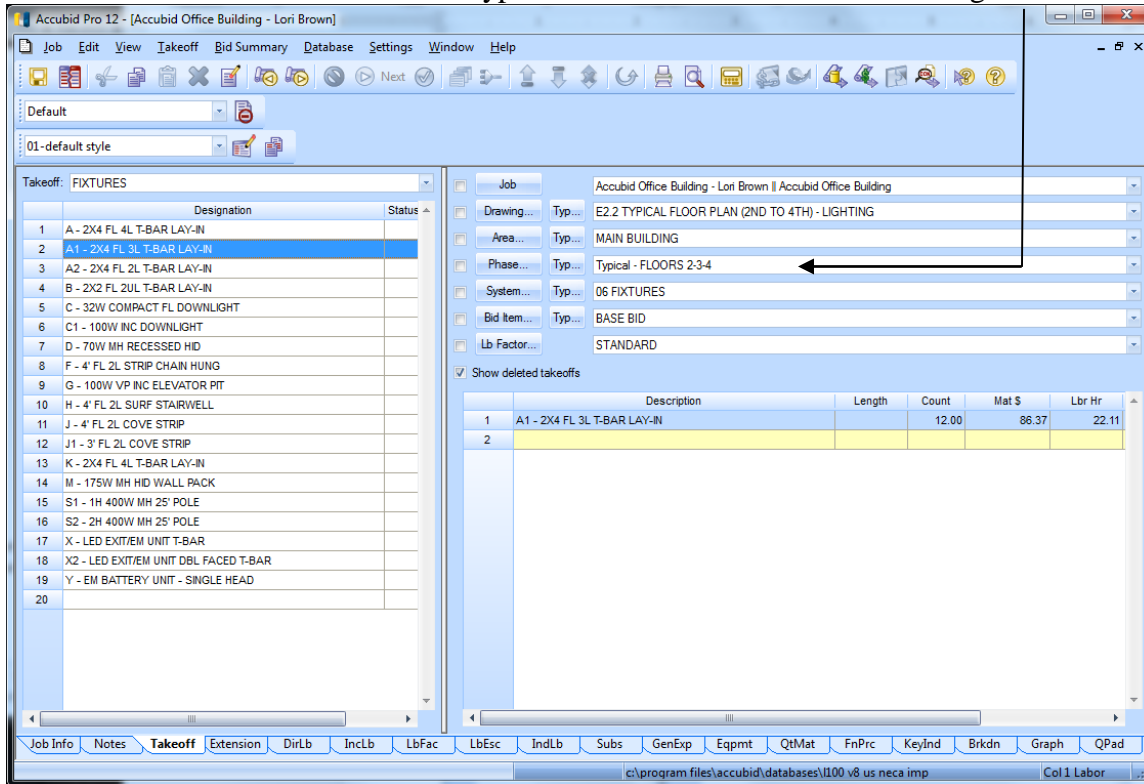

Figure 31
- To Take-Off Fixture A for E2.2 TYPICAL FLOOR PLAN (2ND TO 4TH) - LIGHTING in the Phase Breakdown Label select: Typical-FLOORS 2-3-4 as shown in Figure 31.